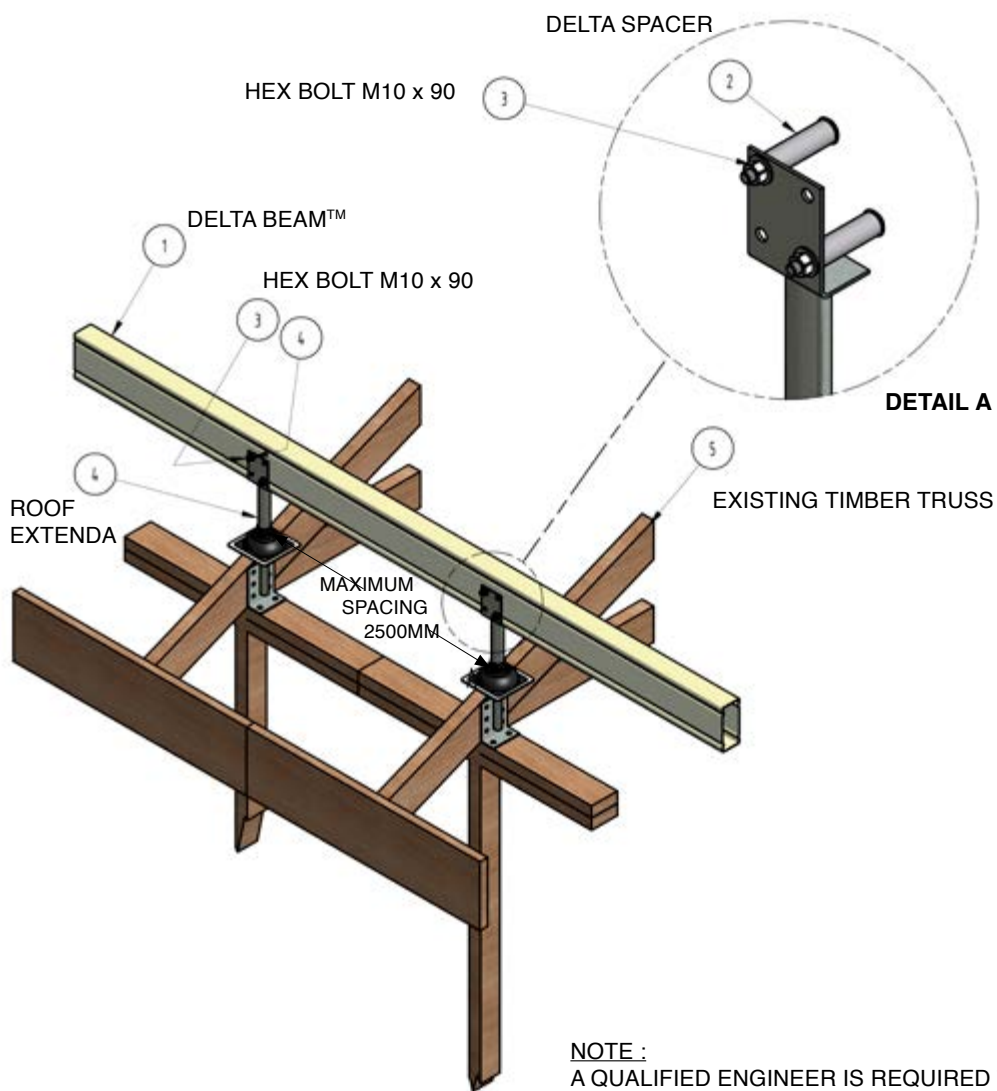

Figure A35
**Flyover with Extenda Bracket (see Figure A35)**